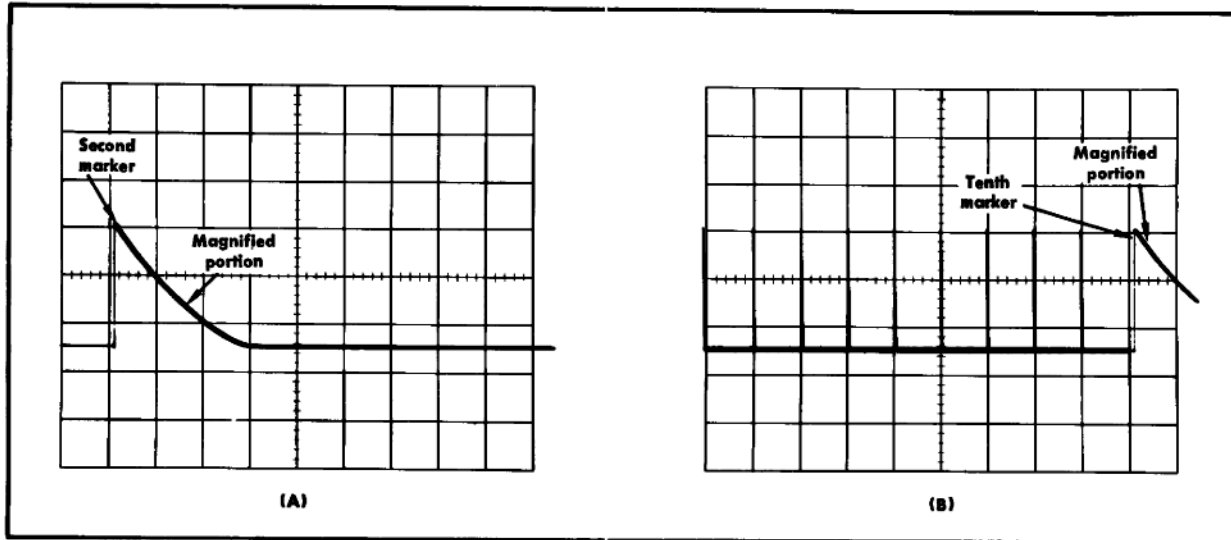

Fig. 5-5. Typical CRT display showing correct position of the magnified portion. (A) DELAY dial near 1.00, (B) DELAY dial near 9.00.
- b. Set the DELAY dial to 1.00 and then rotate the dial as necessary so the magnified portion starts at the leading edge of the second marker (see Fig. 5-5).